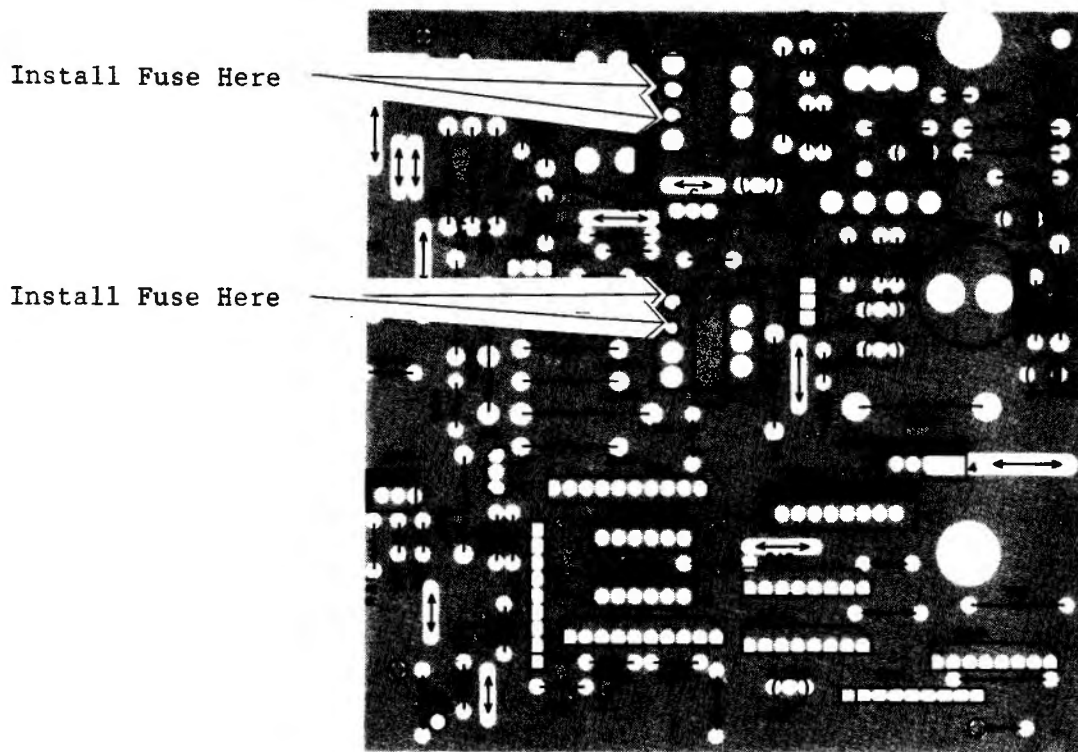

Figure 5
- 8.) Install one of the 1.5A fuses into the center two pins at L1. Install the other 1.5A fuse in the two pins at L2 which are closest to R36. See figure 5.